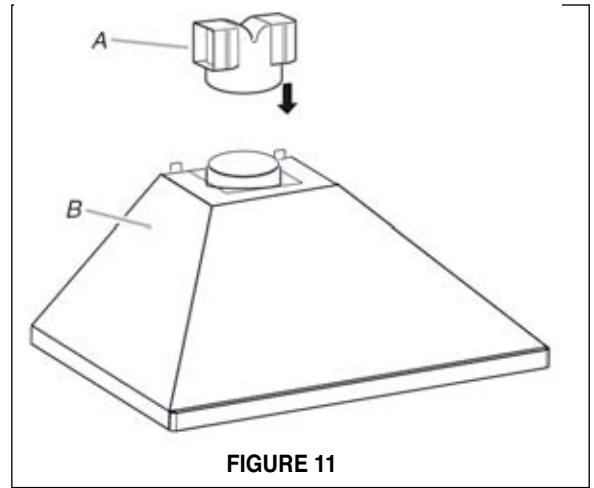

FIGURE 11
1. Install the non-vented (ductless) diverter supplied with the recirculating kit. See (**FIGURE 11**)